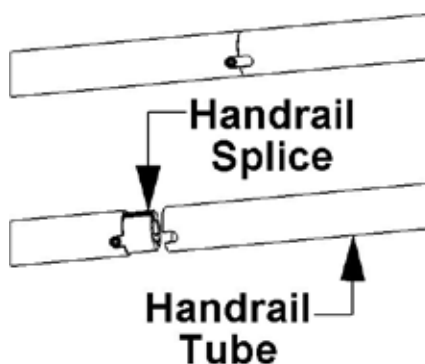
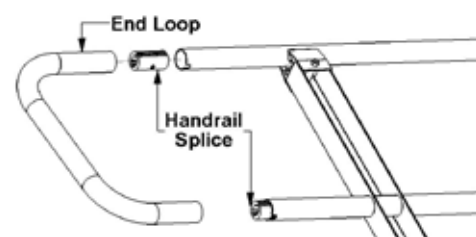

Fig.4.9
Fig.4.10
Before attaching the single post handrail assemblies, nest a handrail splice into the top double post handrail tube as illustrated in **Fig.4.9** on page 19. Line top tube of the single post handrail over the splice and then continue attaching single post handrail assemblies the same way as the double post handrail assemblies. Repeat this process at each ramp post location. After all posts have been attached, slide the bottom handrail tubes until they are even with the top tubes and splice together (**Fig.4.9**, pg.19). After all handrails have been attached to the ramp, go back through and tighten the set screw in all of the splices.
4.3 Handrail Splice Installation: The handrail splice will be used at each handrail tube transition to connect the handrail tubes together giving the handrail the look and feel of one continuous tube. With the handrail splice in place, nest the set screw inside the notch in the bottom of the tube, pull handrail tubes together. Using an allen wrench, tighten the set screw in the handrail splice (**Fig.4.9**). To attach any of the various end loops slide a handrail splice in each tube at the end of the ramp and slip the end loop over the handrail splice, making sure there is no gap between the handrail tube and the end loop (**Fig.4.10**). Tighten down set screw.